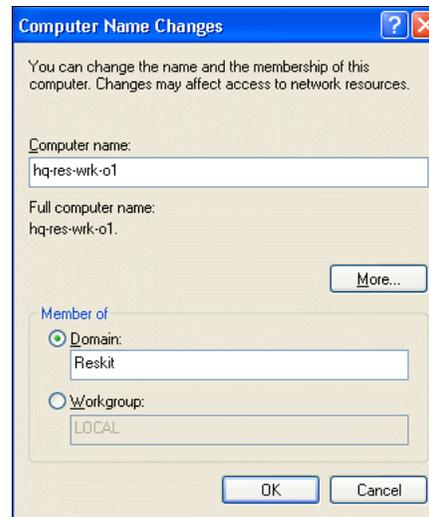

Figure 2-18. Computer Name Changes Dialog
- Step 5.** On the Computer Name Changes dialog box, select Domain and enter the name of the domain in the text box, as shown in Figure 2-18 below: